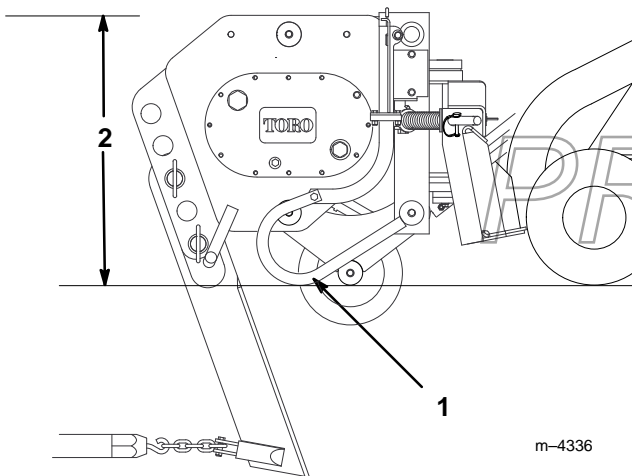

Figure 9
5. Tilt the attachment plate completely back so that the top of the plow is parallel to the ground (Fig. 9)